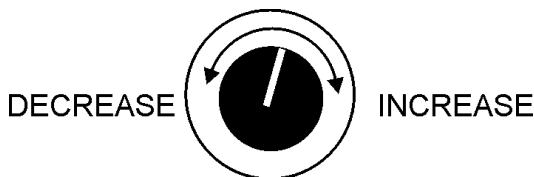

Figure 46. Voltage Adjusted Control Knob
12. Use the voltage adjustment control knob (Figure 46) to increase or decrease the desired voltage.